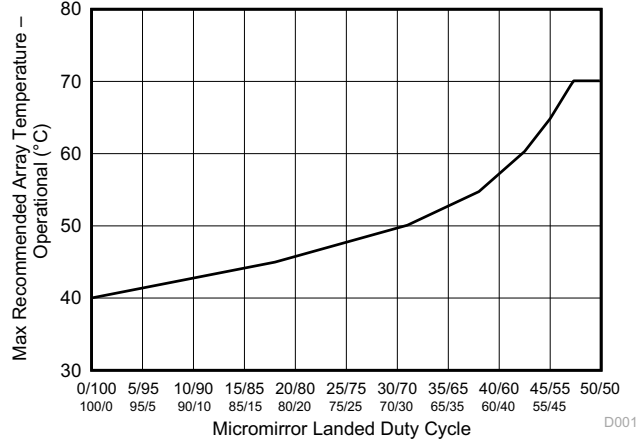

图 5-1. Maximum Recommended Array Temperature – Derating Curve
- (12) Per 图 5-1, the maximum operational array temperature should be derated based on the micromirror landed duty cycle that the DMD experiences in the end application. Refer to 节 6.8 for a definition of micromirror landed duty cycle.
- (13) Long-term is defined as the usable life of the device.
- (14) Short-term is the total cumulative time over the useful life of the device.
- (15) The maximum marginal ray angle of the incoming illumination light at any point in the micromirror array, including at the pond of micromirrors (POM), should not exceed 55 degrees from the normal to the device array plane. The device window aperture has not necessarily been designed to allow incoming light at higher maximum angles to pass to the micromirrors, and the device performance has not been tested nor qualified at angles exceeding this. Illumination light exceeding this angle outside the micromirror array (including POM) will contribute to thermal limitations described in this document and may negatively affect lifetime.